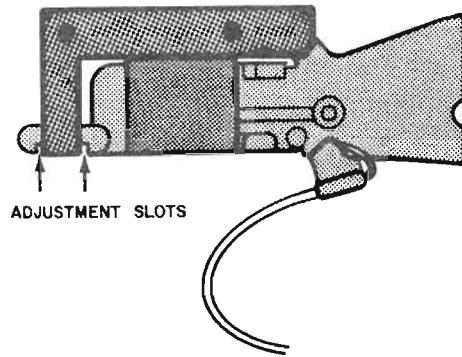

FIGURE 4-10 HEAD ADJUSTMENT
- c. Position a screwdriver at the point indicated in Figure 4-10, and manually move the head assembly in or out to obtain the correct alignment waveform.
- g. Reposition the R/W heads back to the alignment track (146), and recheck the alignment of the heads. Repeat the adjustment procedure as necessary.